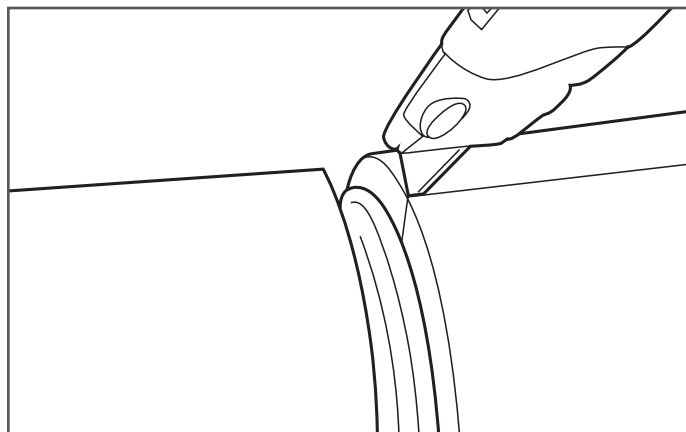

Figure 7-4
5. Carefully cut outer jacket longitudinally with a utility knife for ease of removal. Do not score DoubleTrac® piping (Figure 7-4).